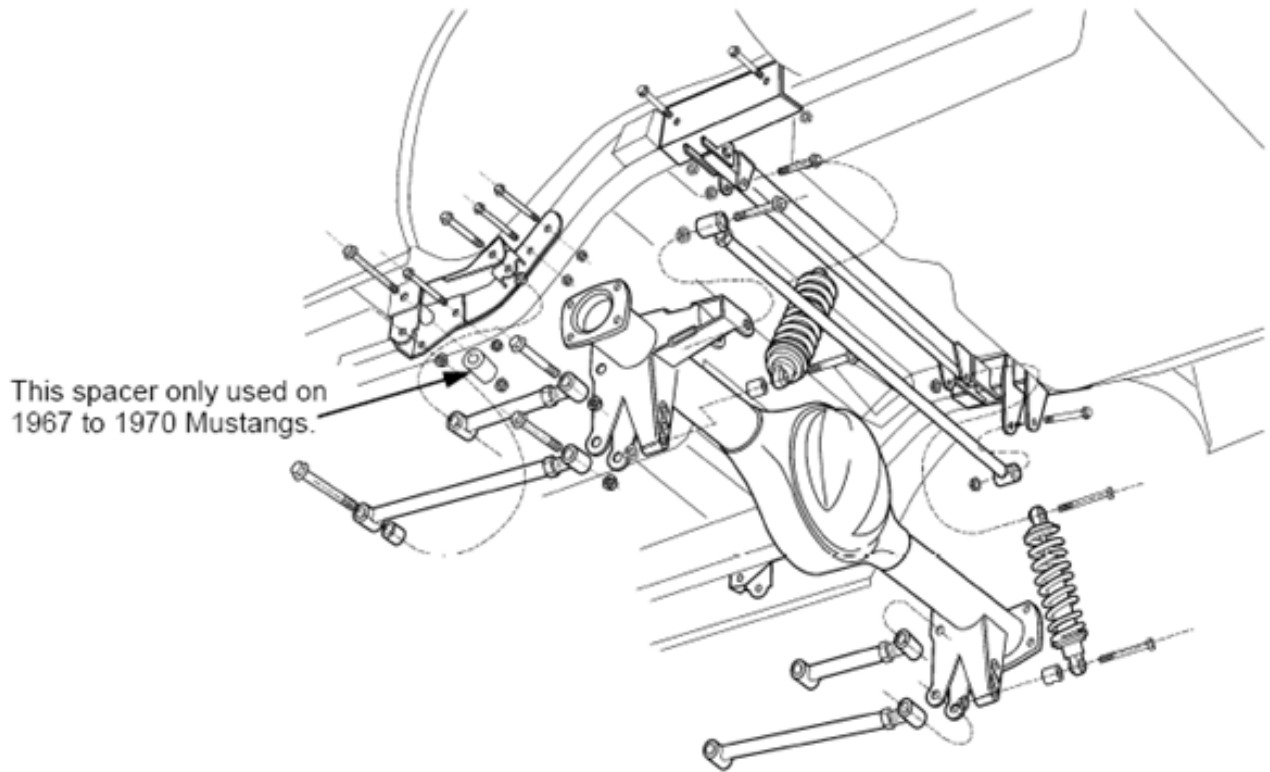

Figure 6- Upper & Lower Links, & Panhard Install
- 3.) Install the front link brackets next. They are inserted in the front leaf spring pockets on the front factory frame rails, and locate using the front holes on the front leaf spring mounts, see **Figure 3**. Drill 1/2" holes through the factory frame rails and bolt the sides of the front mounts using the reinforcement plates in the inner side of the rails. See **Figure 3**. For 67-70 models only, make sure to install the 1-3/4" x 1-1/4" spacer through the large hole into the inside of the factory frame rail. Secure with 1/2" bolt. See **Figure 6**.
- 5.) Install the link bars with the adjusters to the rear into the mounts in the front frame brackets. Position the rear axle housing in place and install the bars into the brackets on the housing. Use the 5/8-18 bolts and nuts included. Assemble the coil springs onto the shock assemblies and install them into the upper mounts using the 5/8-18 x 2-3/4" bolts and nuts, and onto the housing using the 5/8-11 x 7" bolts, spacers and nuts supplied. Now install the Panhard Bar using the 1/2-13 bolts and nuts supplied. Adjust the Panhard Bar to center the housing. Adjust the link bars. The upper bars will position the housing, and the lower ones will set the pinion angle. See **Figure 6**.